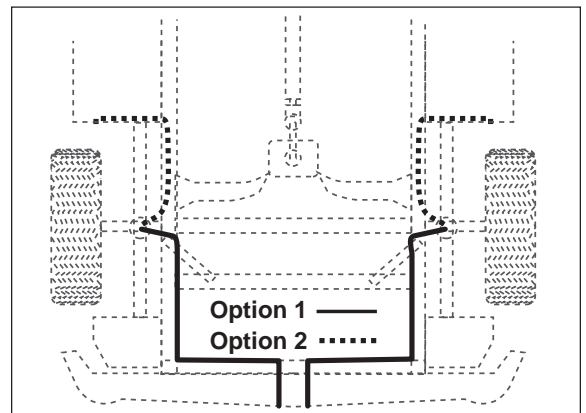

Figure 10
- a. Select a location for the inflation valves in the rocker panel flange, or rear bumper, insuring that each valve will be protected and accessible with an air hose (Figure 10).